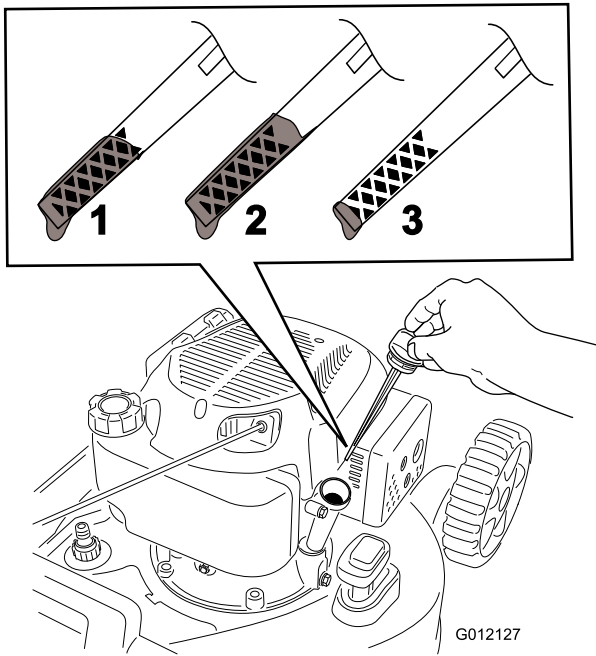

Figure 21
9. Remove the dipstick and read the oil level on the dipstick (Figure 21).